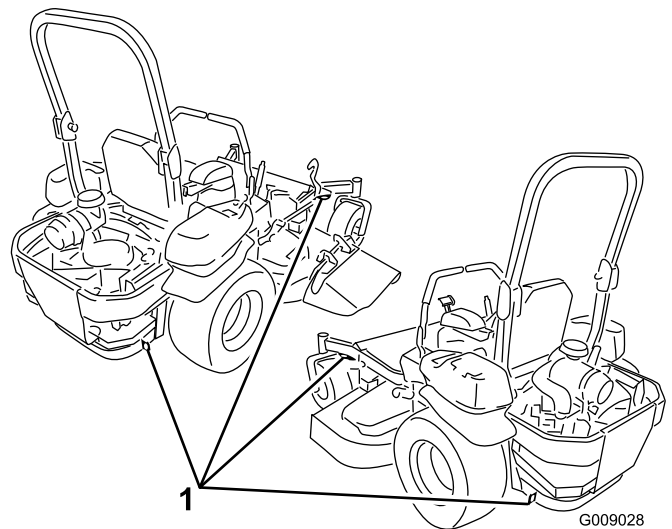

Figure 36
5. Use the metal tie down loops on the machine to securely fasten the machine to the trailer or truck with straps, chains, cable, or ropes (Figure 36).